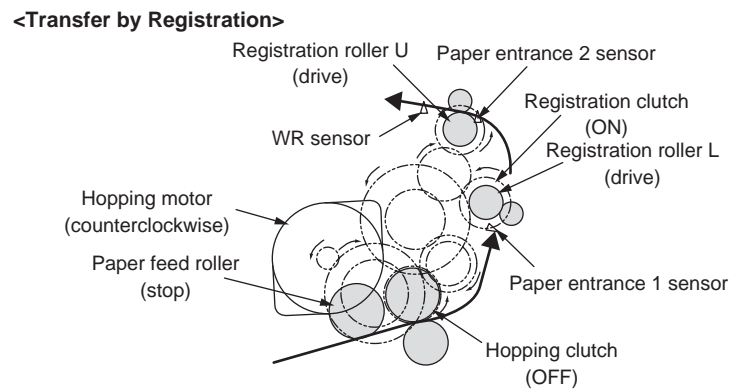

Figure 2-2
3. As shown in Figure 2-2, the registration clutch is turned ON, the registration roller L rotates to transfer the paper. (When the hopping clutch is turned OFF in a few seconds after the registration roller L is driven.)